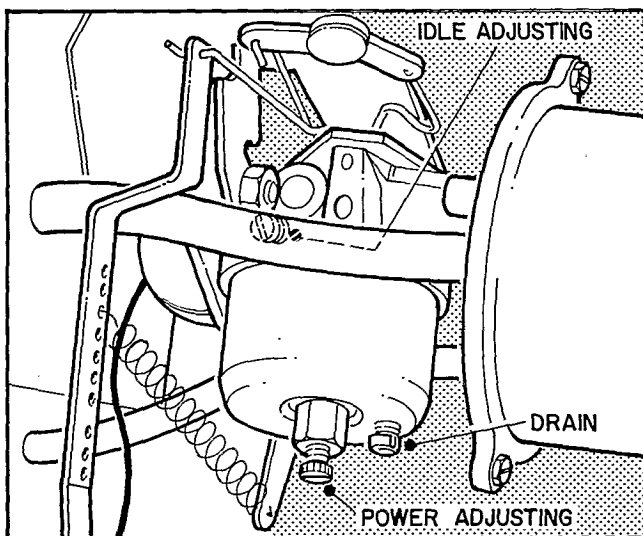

Figure 1.
3. Close idle adjusting needle (see Fig. 1) by turning to